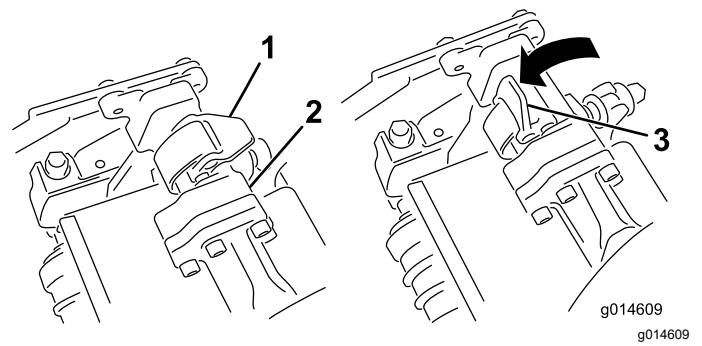
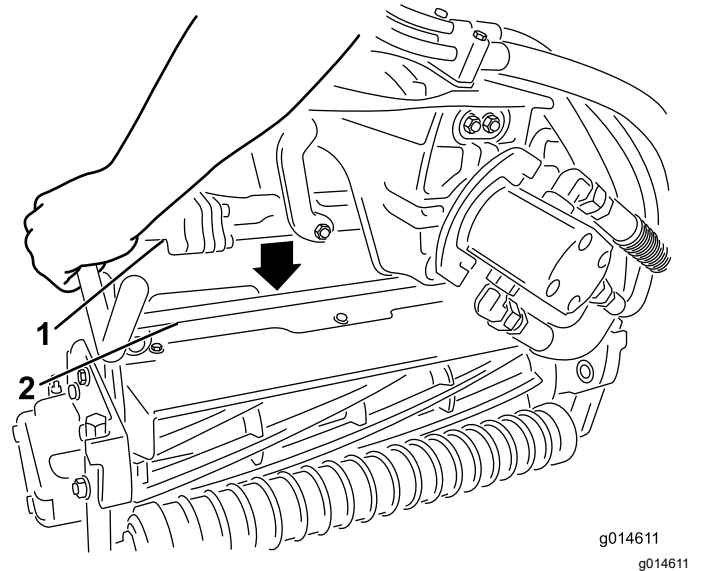

Figure 47
Figure 48
4. Close the latches down and around the cutting-unit bar and lock them in place (Figure 47).
3. With the latches on the suspension-arm bar pointing up (i.e., open) (Figure 47), push the suspension arm down so that the bar fits over the bar across the top of the cutting unit (Figure 48).
4. Open the latches on the suspension-arm bar of the cutting unit you are removing (Figure 47).